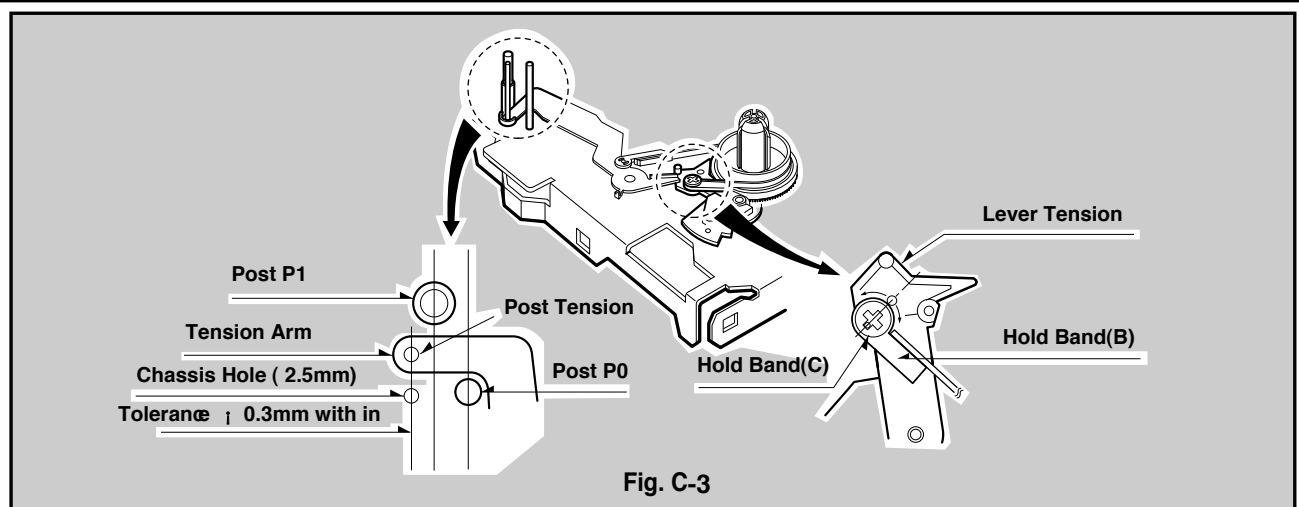

Fig. C-3
- 2) Adjust the position of tension post in accordance with figure C-3.